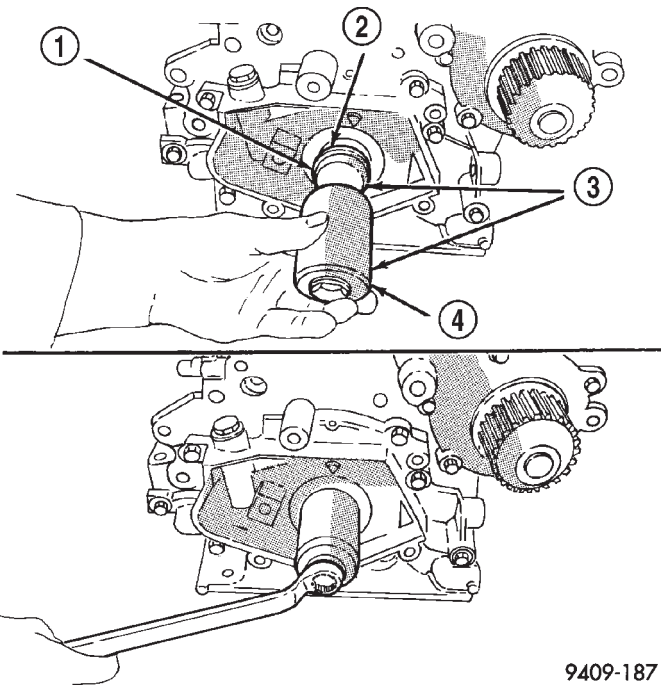

Fig. 106 Front Crankshaft Seal—Installation
- (5) Torque all oil pump attaching bolts to 28 N·m (250 in. lbs.).
- (6) Install new front crankshaft seal using Special Tool 6780 (Fig. 106).